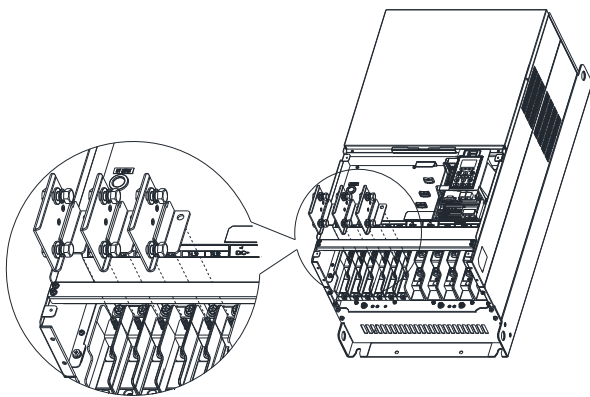

Figure 7-217
4. Install the 3pcs copper assy., as shown in the Figure 7-217. Fasten the upper M8 nuts (1–6) with a sleeve wrench (12 mm of the sleeve), as shown in the Figure 7-218 and Figure 7-219 below. M8 Torque: 180 kg-cm / (156.2 lb-in) / (17.65 Nm)